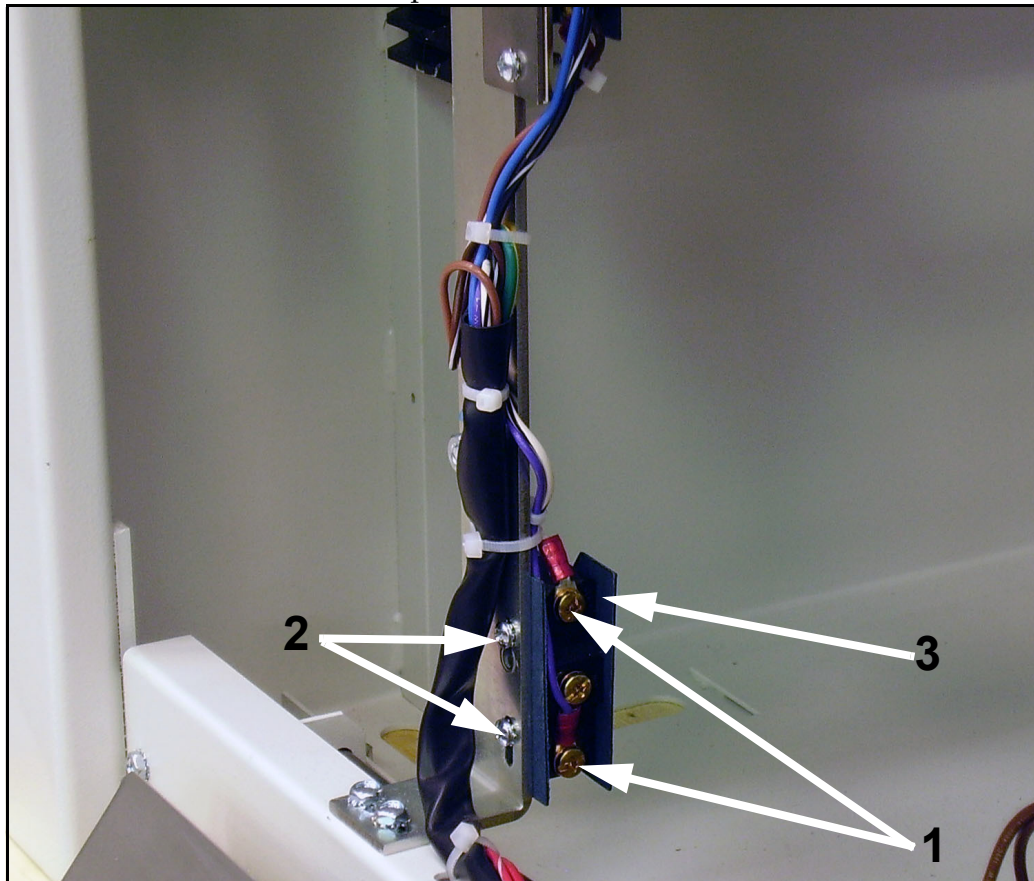

Figure 6-15. Limit Switch (Typical)
- 3 Disconnect the terminals (1 in Figure 6-15).
- 4 Unscrew the two mounting screws (2) and then remove the switch (3) and the nut bar (not shown).